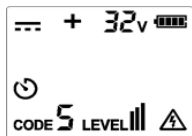

Figure 12.1d DC voltage (>30V) measurement
7. When the voltage is 8 V ~ 480 V DC/AC (50/60 Hz). If the measured voltage is greater than 30 V, then the display is as shown in Figures 12.1d, 12.1e and 12.1f.